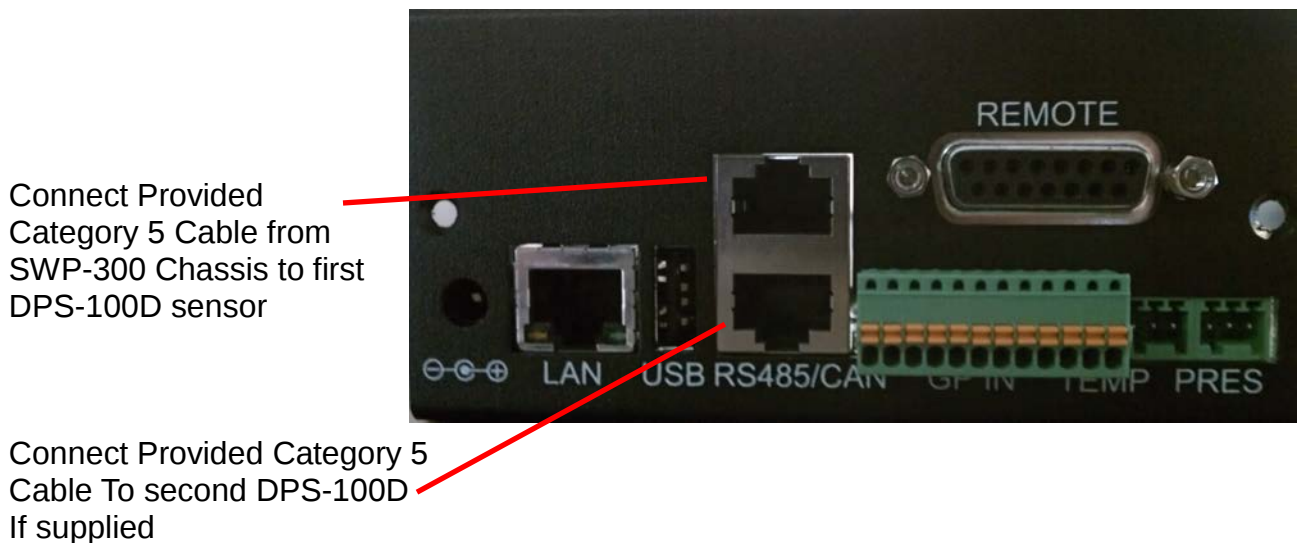

Fig. 1 Shows connection from SWP-300 Chassis and to succeeding DPS-100D if supplied
5. Using the supplied Ethernet cables attach one Ethernet cable to the RJ45 receptacle of the adapter installed in step 2 to the first sensor in the system. Using supplied cable daisy chain attach from the first sensor to the next if supplied. Each DPS-100D sensor has been supplied with its own RS485 address 1 or 2. The data for each sensor will appear on the respective SWP-300 channel Sensor 1 – (main) or Sensor 2 – (auxiliary). Main is RS485 address 1 and auxiliary is address 2 as set using the DPS-100D meter app. Note that when the DPS-100D sensors are used in conjunction with the SWP-300 chassis they are powered through the RS-485 connection. **Do not use the external power jack on the DPS-100D when used with the SWP-300 chassis.** Make sure all connections are complete and all DPS-100D sensors show an active display. The RS485 address of each sensor is programmed at the factory but it is possible to change this address if desired. To perform this change consult the DPS-100D Technical Reference Manual supplied with the DPS-100D sensor. NOTE: No two DPS-100D sensors can have the same RS-485 address or the system will fail to operate properly. See Fig. 1 below